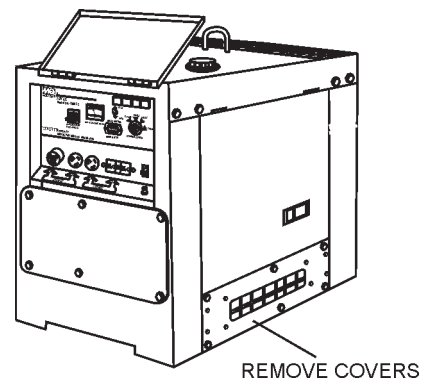

Figure 10. Removing Access Covers
3. Remove side covers to provide access to the interior of the cabinet. (Figure 10).